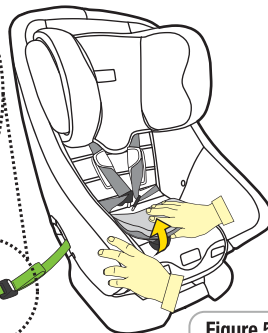

Figure 5
Step 7: Fold the padding and cover back in place (refer Figure 5).